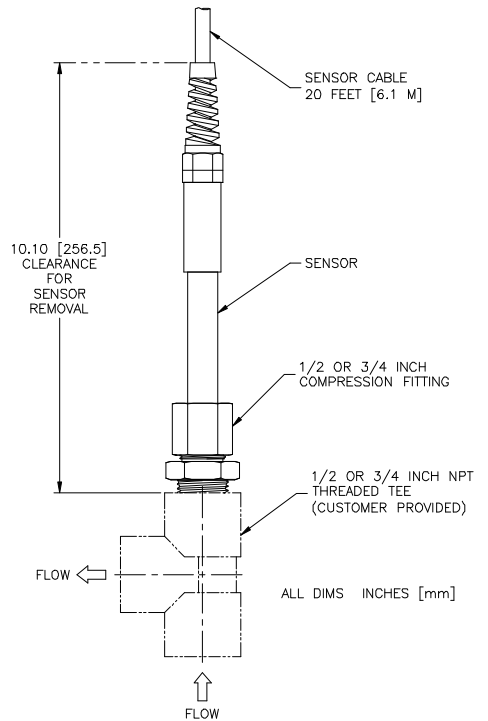

FIGURE 2-2 Insertion Mounting Details
- Install the sensor into the pipe run so that the process flows directly into the end of the sensor (see Figure 2-2).